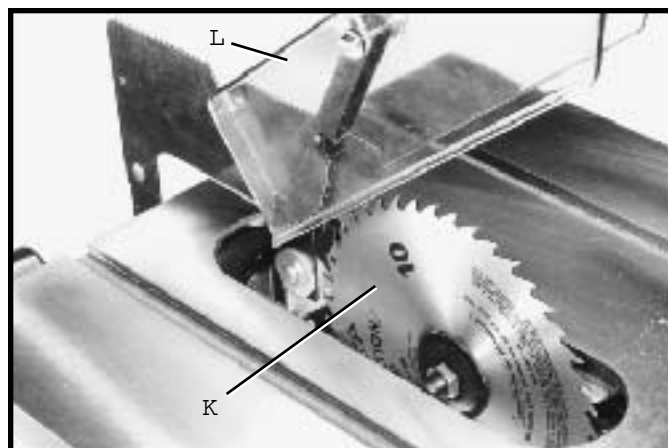

Fig. 32
9. With the blade guard (L) Fig. 32, in the raised position, assemble the saw blade (K) on the saw arbor with two arbor wrenches supplied.